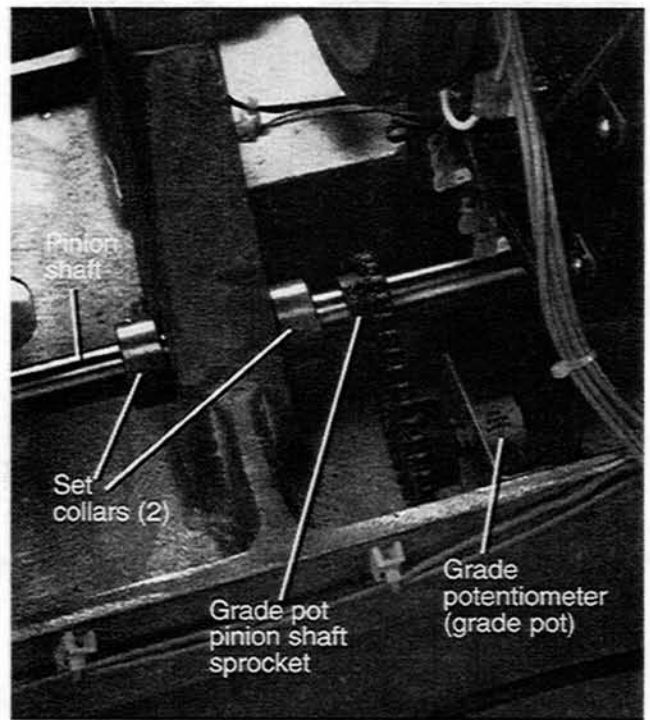

Figure 3-24. Grade Pot and Pinion Shaft
sprocket, then verify that the sprocket turns easily on the shaft. This will avoid damage to the pot (Figure 3-24).
2. With the hood removed, restore power to the treadmill and turn the grade motor on until the setscrew on the grade pot pinion shaft sprocket is visible. See Figure 3-24.
7. Loosen the set screw that secures the grade potentiometer (pot) pinion shaft sprocket, then verify that the sprocket turns easily on the shaft. This will avoid damage to the pot (Figure 3-24).
4. Loosen the set screw that secures the grade potentiometer (pot) pinion shaft sprocket, if it is not already loose, then verify that the sprocket turns easily on the shaft. This will avoid damage to the pot. See Figure 3-24 on page 3-15.
that the sprocket turns easily on the shaft. This will avoid damage to the pot. See Figure 3-24 on page 3-15.